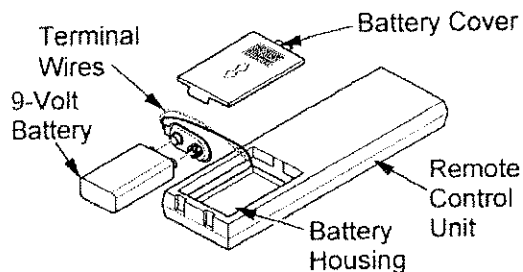

Figure 30 - Installing Battery in Hand-Held Remote Control Unit (GHRCB Series)
7. Connect wires as shown in Figure 30, page 20.